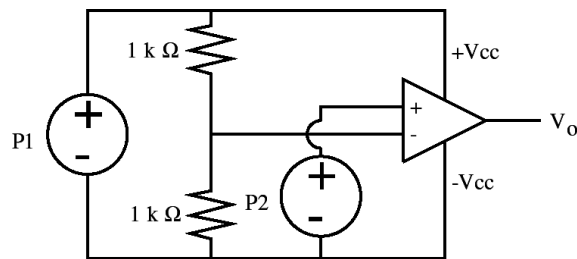

Figure 8: Operational amplifier comparator circuit using *split* supply
- 2) Assemble the circuit in Figure 8 using the voltage divider op-amp power supply different from the one you used in the previous sections.